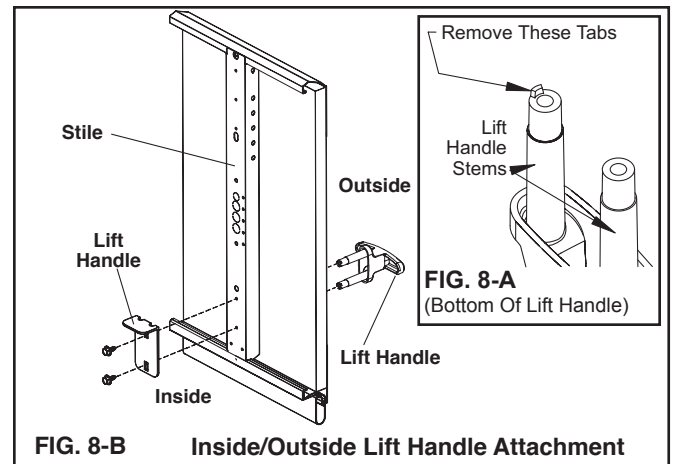

FIG. 8-B Inside/Outside Lift Handle Attachment
Prior to installing, the tabs must be removed from the ends of the two cylinders protruding from the back of the plastic handle. Using pliers, twist each tab until it breaks off at the notch mark. (FIG 8-A)
Drill two 1/2" holes through the door using the dimple mark and pre-punched hole on the center stile as a template. If your door has an outside keyed lock, the hole pattern should be drilled on the bottom section directly below the lock. If your door does not have an outside keyed lock, the hole pattern should be drilled directly below the hinge closest to the horizontal center of the door. Install the lift handle & inside step plate assembly using (2) #14 x 5/8" sheet metal screws (Fig. 8-B).